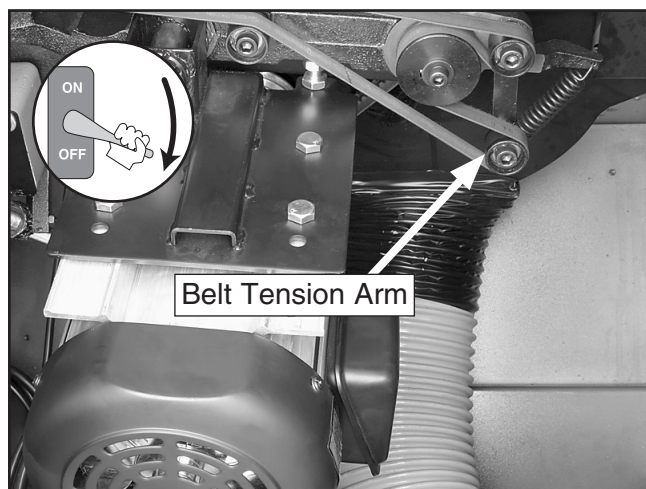

Figure 78. Scoring blade belt tension arm.
3. Rotate the belt tension arm shown in **Figure 78** and slide the flat belt off of the roller.